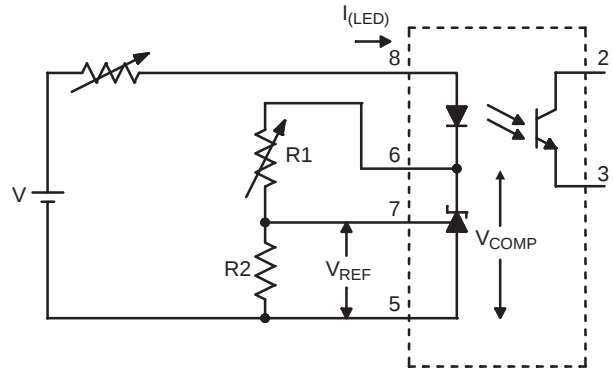

Figure 3.  $\Delta V_{REF} / \Delta V_{COMP}$  Test Circuit
| $\Delta V_{REF} / \Delta V_{COMP}$ | Ratio of $V_{REF}$ Variation to the Output of the Error Amplifier | $I_{LED} = 10\text{ mA}$ , $V_{COMP} = V_{REF}$ to 12 V (Figure 3)                     | –     | –1.5  | –2.7  | mV/V          |
5. The dynamic impedance is defined as  $|Z_{OUT}| = \Delta V_{COMP} / \Delta I_{LED}$ . When the device is operating with two external resistors (see Figure 3), the total dynamic impedance of the circuit is given by: